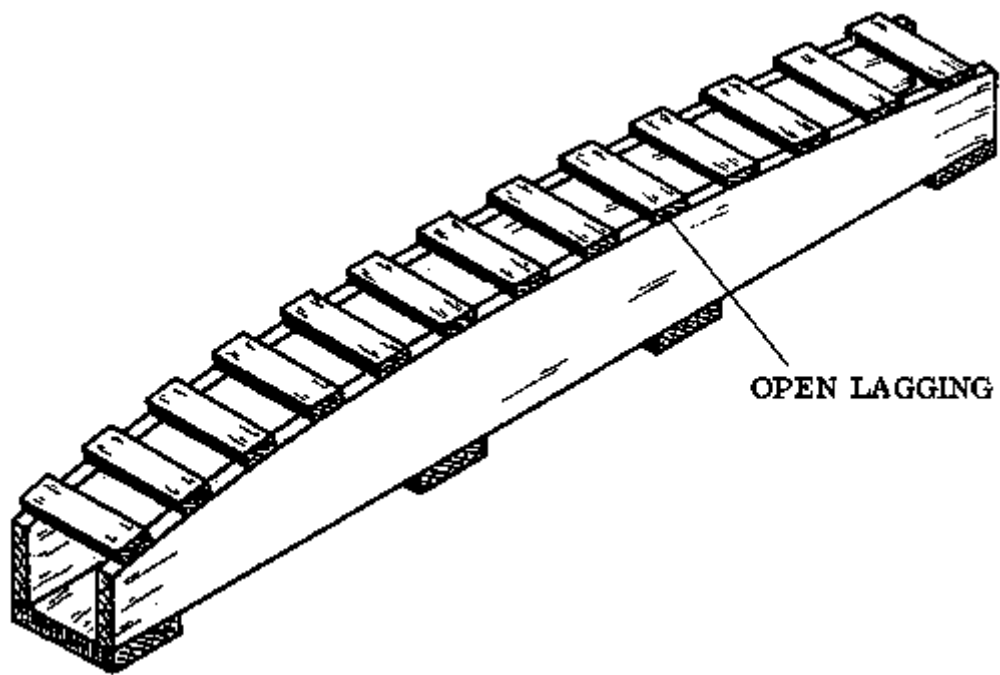

Fig. 3
- Arches spanning wider openings and those which have a rise of more than about 1/10th of the span need to be supported by a stronger centring, with either open or closed lagging (Fig. 3).